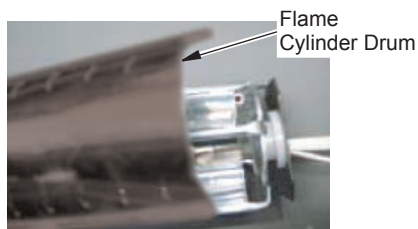

Figure 8 - Flame Generation Cylinder Drum
3. Squeeze half of drum cylinder until it's top edge clears the top drum track (see Figure 8). Remove bottom edge of cylinder drum from bottom drum track. This will give you access to the light bulbs. **Note:** Do not exert excessive pressure on drum cylinder as this may cause damage.